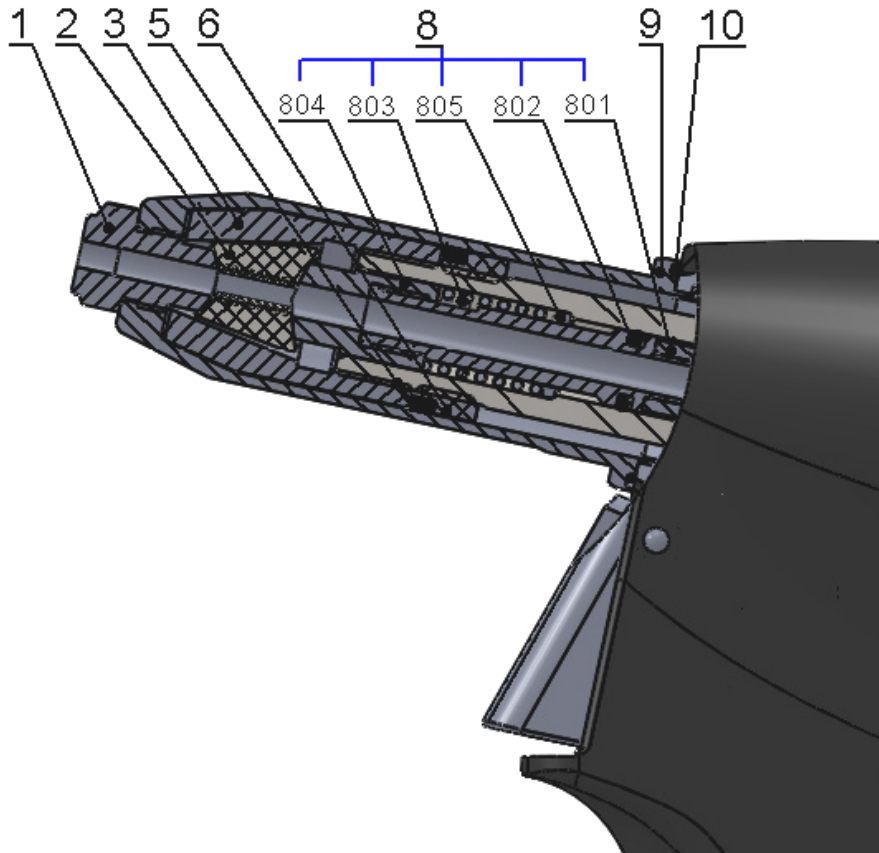
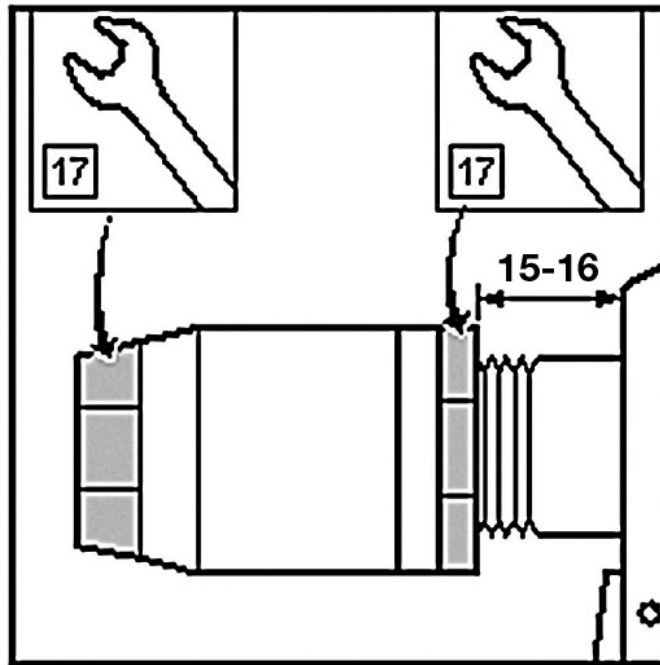

Fig. 2
Fig. 3
Disconnect the tool from the source of compressed air, unscrew the front nozzle /fig.2 - pos.9/ by means of a spanner no.23, set the spanner no.17(15) onto the clamping sleeve /fig.2 - pos.3/, set the spanner no.17 on the backnut /fig.2 - pos.6/ and loosen. Unscrew the clamping sleeve, replace the jaws /fig.2 - pos.2/ and conduit-suction complet /fig.2 - pos.8/. All used threads are clockwise. Clean the dismantled parts thoroughly and check them visually, especially the following:
- 1) Jaws /fig.2 – pos.2/ - if worn or damaged, replace it, if dirty, clean it with a wire brush.
- 2) Nose-piece /fig.2 – pos.1/ - for wear of functional surfaces of the taper.
- 3) Conduit-suction complet /fig.2 - pos.8/ - inspect parts of the assembly, jaw pusher /fig.2 - pos.804/, spring /fig.2 - pos.803/, washer of spring /fig.2 - pos.805/, O - ring /fig.2 - pos.802/ and conduit-suction /fig.2 - pos.801/ - if damaged or worn, replace it with a new one.
- 4) Front nozzle /fig.2 - pos.9/ - check for damage of the internal surface ($\varnothing 20$).
- 5) Scraper ring /fig.2 - pos.5/ - if damaged or worn, replace it with a new one.
Mount the parts (see par. disassembly) in a reverse order. On the outer surface of the jaws /fig.2 – pos.2/ apply a drop of lubricating oil (we recommend hydraulic oil HYSPIN AWHM 32 CASTROL), apply thin layer of plastic lubricant MOGUL LV 2-3 to the conduit-suction complet /fig.2 – pos.8/. Basic set-up of the jaws is performed as in fig. 3.